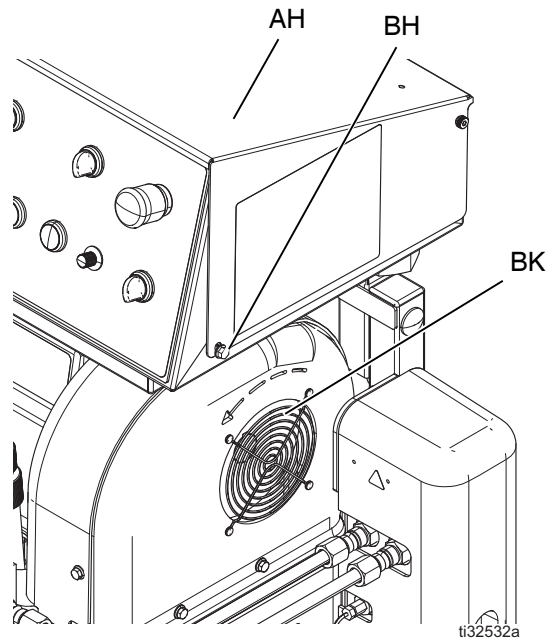

FIG. 7: Electric Motor Rotation
7. Verify electric motor fan (BK) rotation is correct.
- a. Turn the main power disconnect (CE) to ON.
- b. Turn the control power switch (CH) to START. Verify the pump control switch (CL) is in NEUTRAL.
- c. Briefly turn the motor power switch (CN) to ON. Observe the direction the electric motor fan (BK) rotates. See FIG. 7.
- a. Immediately turn the motor power switch (CN) to OFF.
- b. Turn the control power switch (CH) to STOP.
- c. Turn the main power disconnect (CE) to OFF.